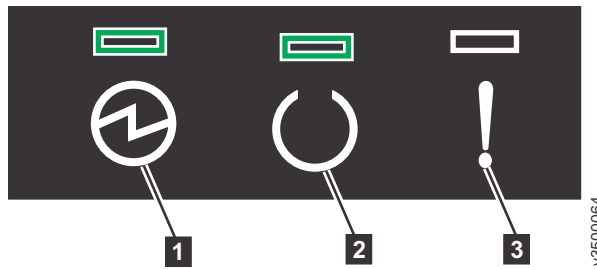

Figure 19. Expansion canister LEDs
2. Check the LEDs on each expansion canister, as displayed in Figure 19.